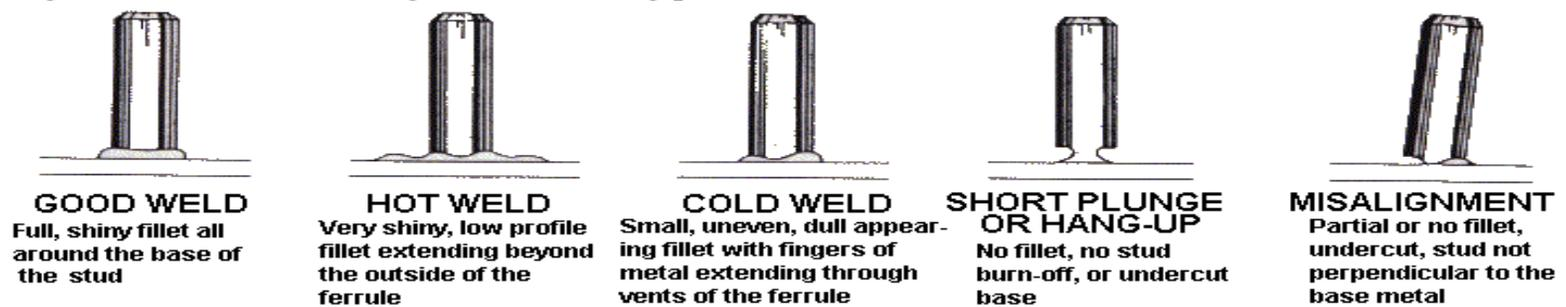

Figure 5
- Fig 5 Shows Visual Testing of stud welding process.